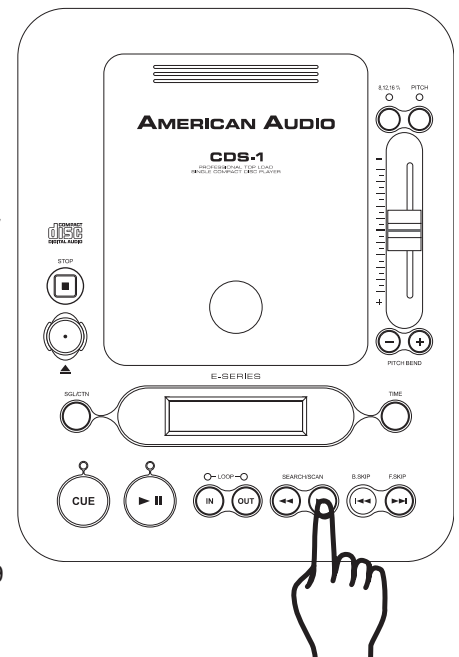

Figure 9
This feature allows you to search through a track to set a cue or the beginning of a loop point. To use the search function you must first be in Pause or Cue mode. Once you are in Pause or Cue mode, use your finger to tap on either the *FORWARD SEARCH/SCAN BUTTON (13)* or the *REVERSE SEARCH/SCAN BUTTON (12)* depending on which direction you want to search (figure 9). Holding down on the button will increase the speed the search function will scan. Once you reach your desired starting point you can set a cue (starting) point by pressing the *PLAY/PAUSE BUTTON (19)* as in figure 9. Pressing the *CUE BUTTON (6)* will return the disc to the cue point just set.